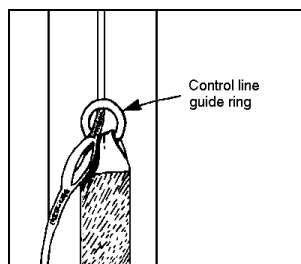

Figure 8.
Step 4.) Set the brakes by pulling the control line down through the guide ring until the brake loop “cat-eye” just passes through the guide ring. (See Figure 8.)